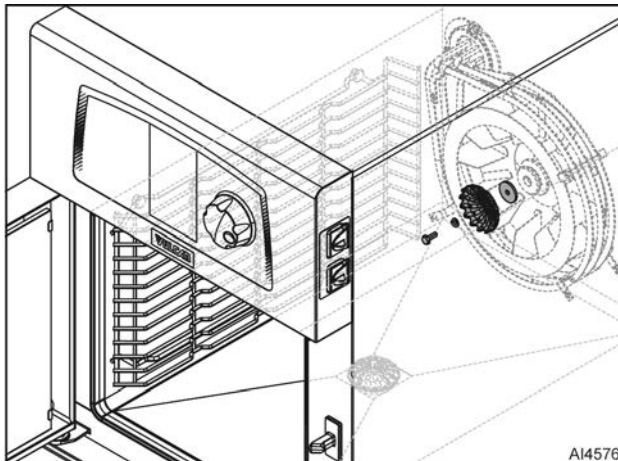

Fig. 26
3. Remove bolt, lock washer, atomizer, and flat washer (Fig. 26) from blower motor shaft.